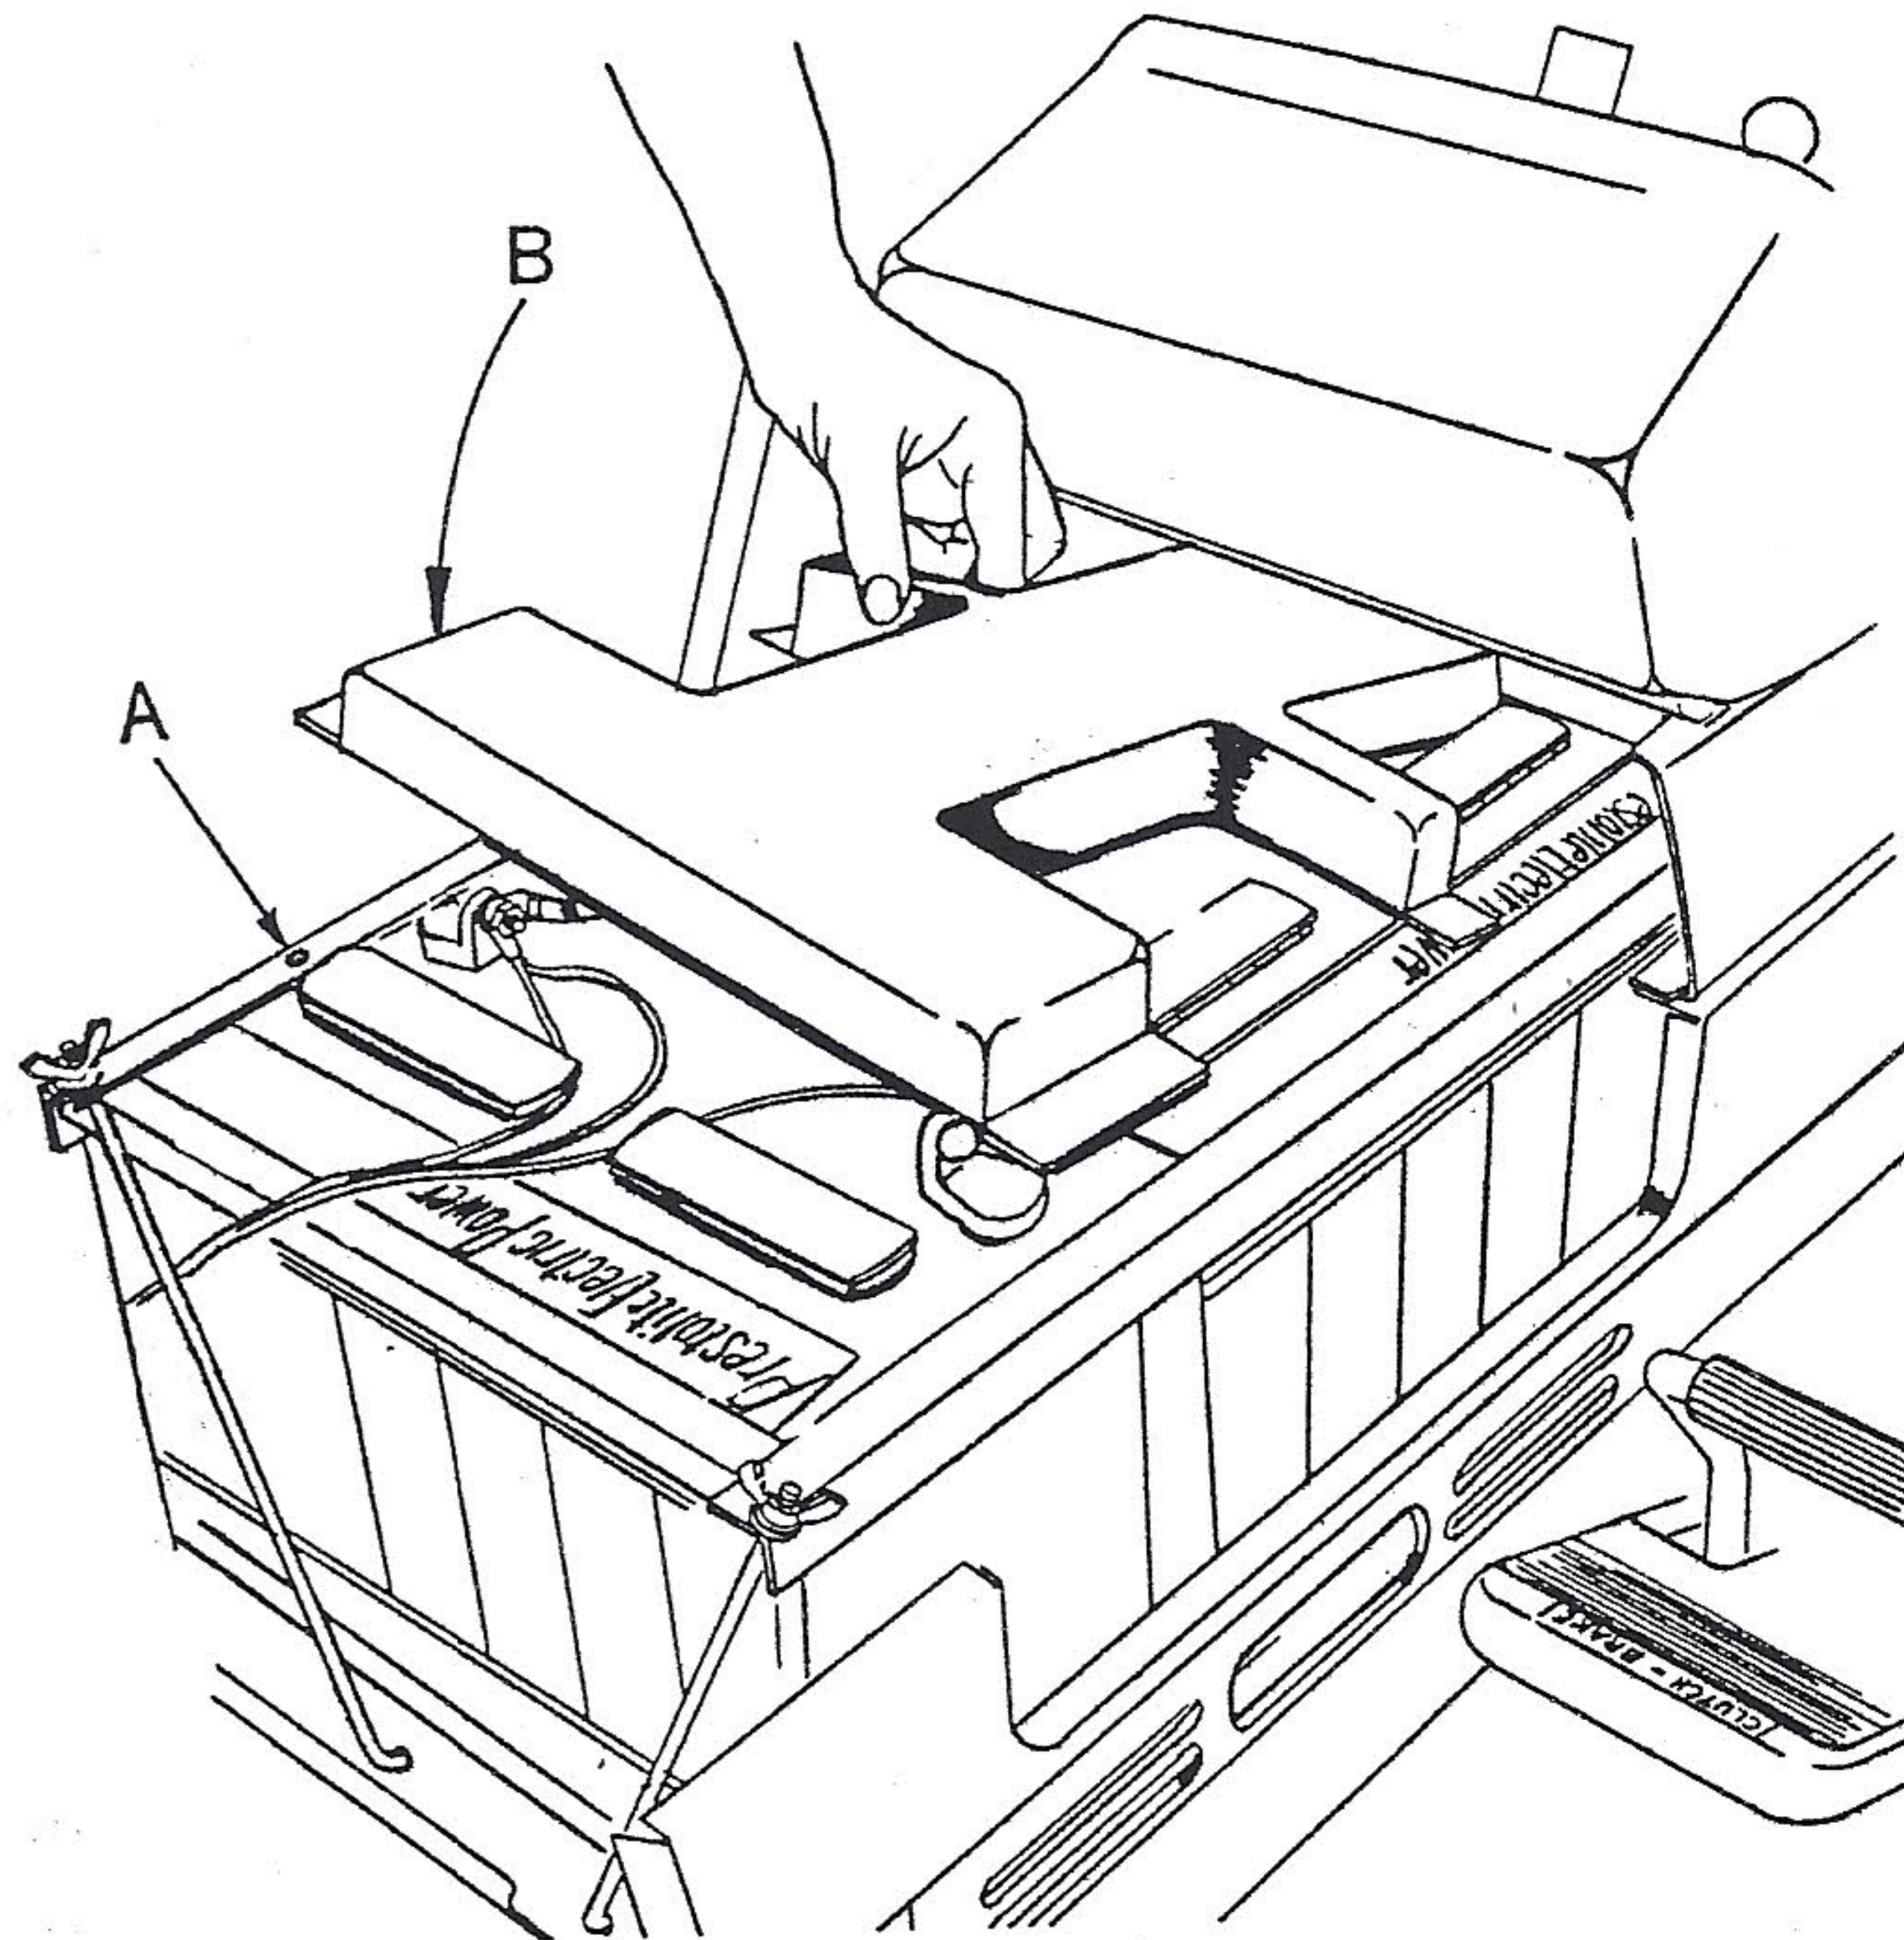

FIG. 45
3. Remove grill cable from battery side strap (A, Fig. 45).
4. Remove battery cover (B). Note position of wires for reassembly.